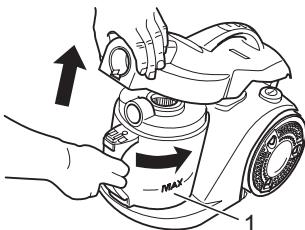

Fig. 16
- Empty the dust container at the latest when the "Max" mark (Fig. 16/1) has been reached or when the vacuum cleaner is losing suction power.
- Press the release buttons and open the housing cover (Fig. 16).
- Turn the dust container a little to the right (Fig. 16) to unlock it.